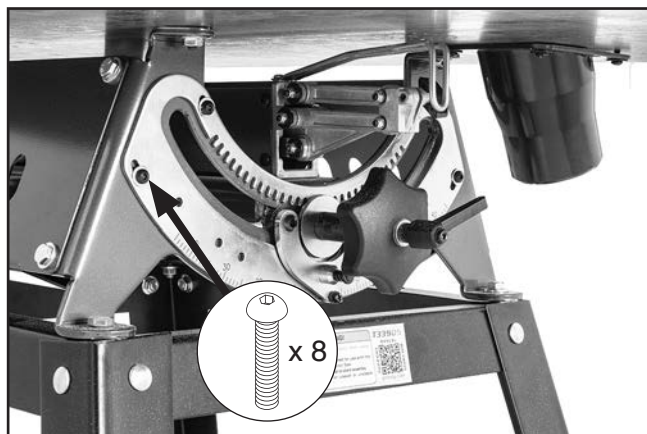

Figure 37. Location of button head cap screws on front trunnion.
- Loosen (8) button head cap screws on front and rear trunnions (see **Figure 37**).
- Tighten front and rear button head cap screws (see **Figure 37**).